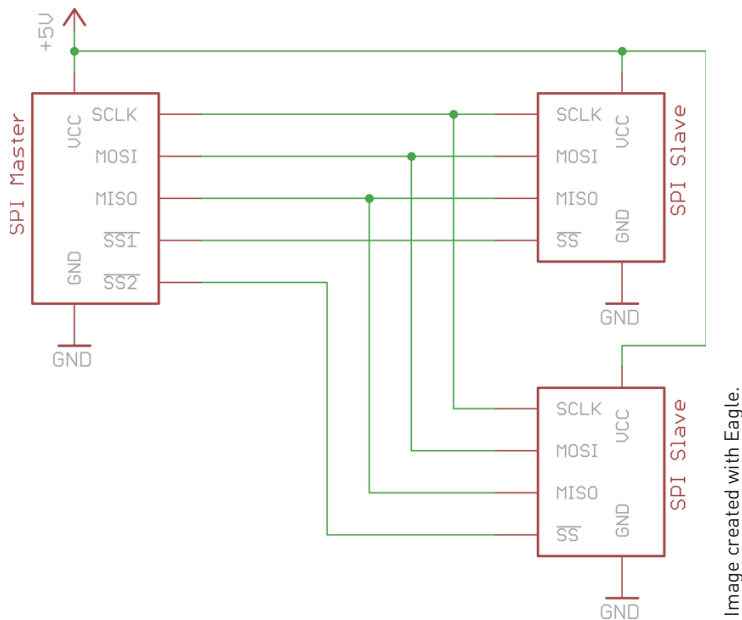

Figure 9-1: SPI reference hardware configuration
Each slave device also requires an additional slave select (SS) pin. Hence, the total number of I/O pins required on the master device will always be $3 + n$, where n is the number of slave devices. Figure 9-1 shows an example SPI system with two slave devices.